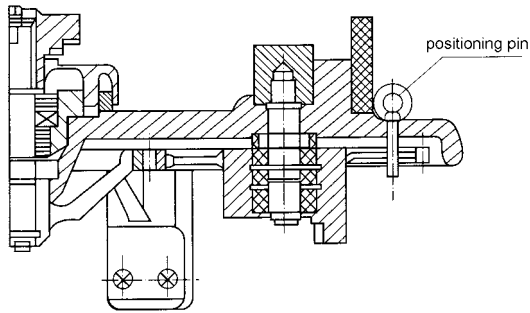

Fig 21 Diverter switch set positioning pin
4.1.3.9 Check the head position and its setting position. Secure the tap change head flange to the mounting flange. At last, remove the red-painted dowel pin from the intermediate gear wheel connector at the cylinder bottom of the diverter switch. (See fig 21)